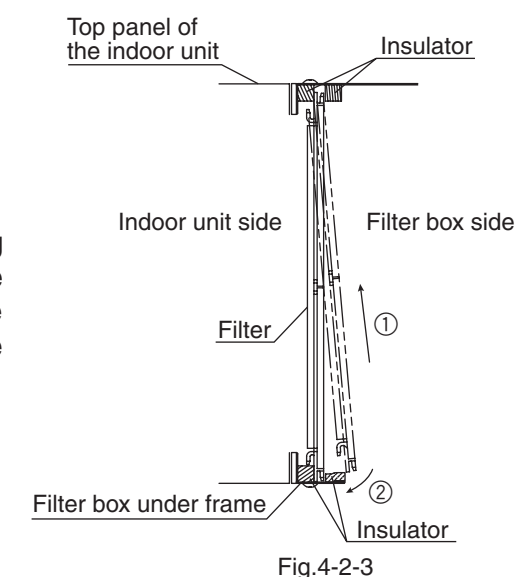

Fig.4-2-3
- (3) Insert the filter between the insulators on the top plate of the filter box until the filter is completely inside the filter box, and place the filter on the under frame of the filter box. (Fig. 4-2-3)
- (4) Install the under panel.